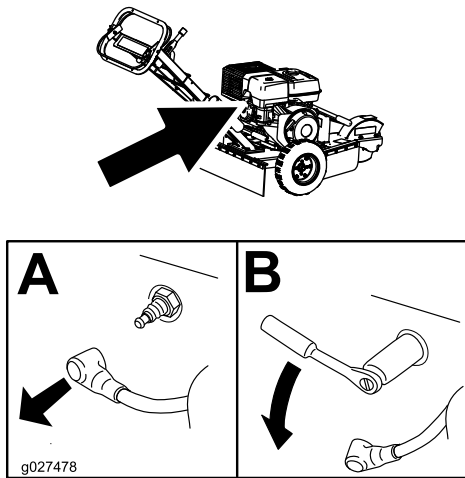

Figure 20
3. Locate and remove the spark plugs (Figure 20).